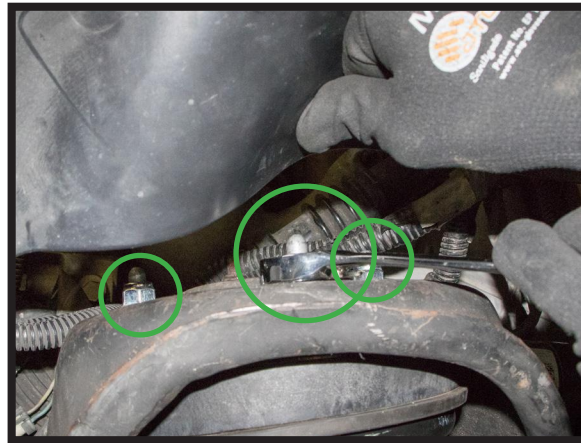

FIGURE 42
4. INSTALL THE THREE TOP MOUNTING NUTS AND TIGHTEN TO MANUFACTURER'S SPECIFICATIONS. (FIGURE 42)